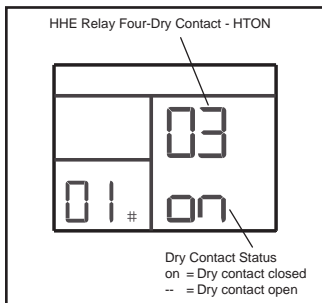

Figure 13. On/Off Status of HHE Relay - HTON
- On/Off status of dry contact three (HTON) (Figure 13)